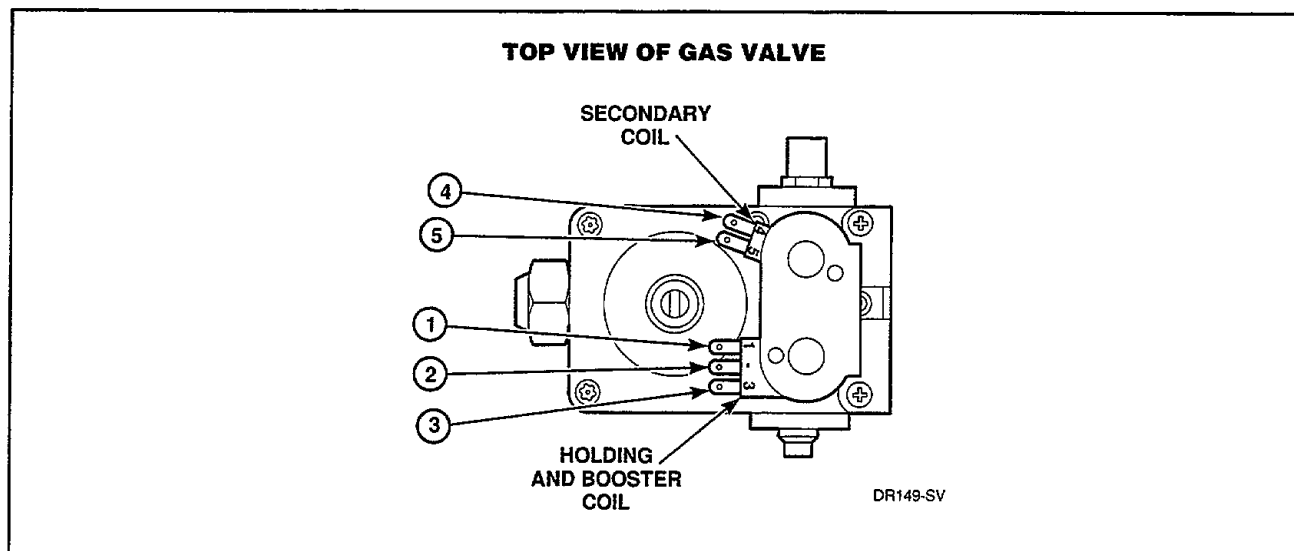

Figure 47
- Remove valve wire harness disconnect block from the holding and booster coil, *Figure 47*.
- Set test meter to read AC voltage and apply meter probes into terminals on the dryer harness that would correspond to terminals 1 and 2 on the coil, *Figure 47*. Meter should register line voltage in all Fabric settings, except FLUFF which should read "zero" VAC.
- Holding Coil (*Figure 47*)
- Booster Coil (*Figure 47*)
- Secondary Coil (*Figure 47*)